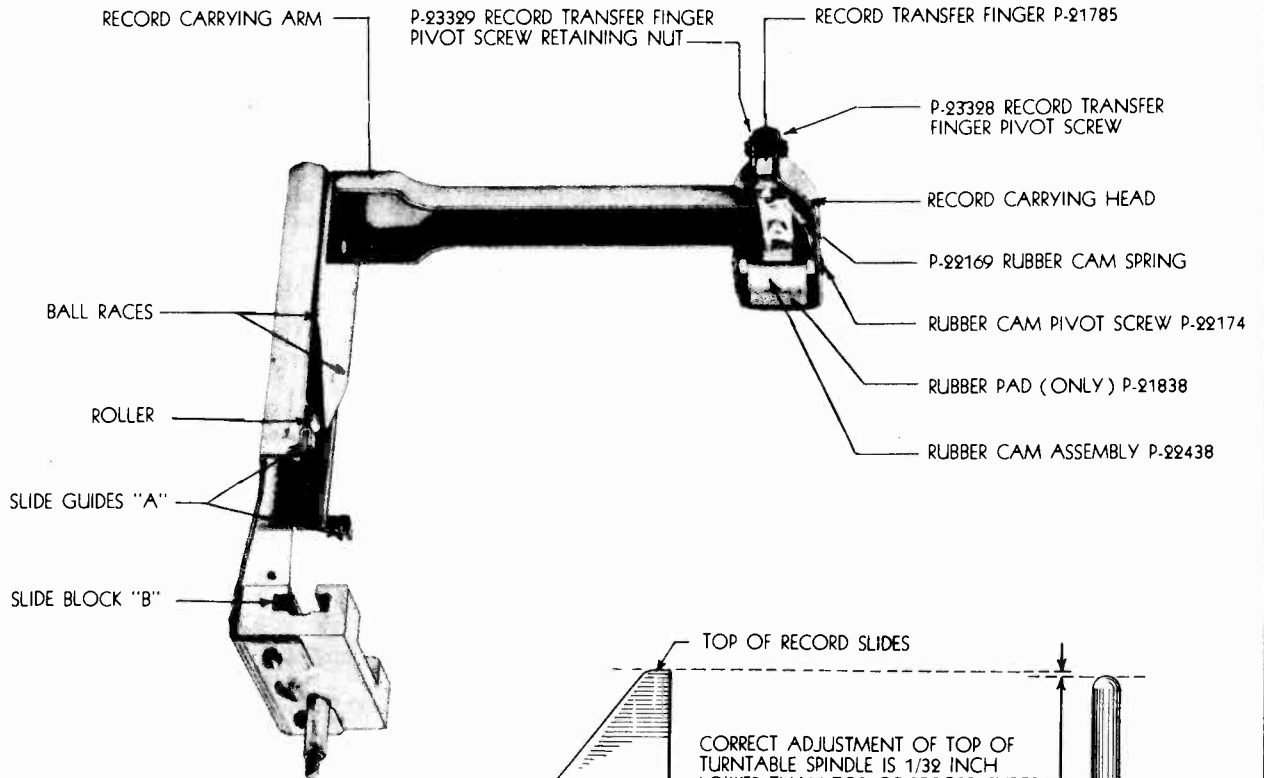

Fig. 23 - Record Carrying Arm Assembly.
- (a) Record Transfer Finger, Fig. 23, does not fall against its stop, due to binding.
- (b) Rubber cam, Fig. 23, is not pulled back because of weak cam return spring.
- (d) Record Transfer Finger, Fig. 23, does not reach surface of top record.
- (a) Record Transfer Finger, Fig. 23, releases record part way over.
- (1) Rubber cam, Fig. 23, interfering.
- 19 - Rubber Cam, Fig. 23, Fails to Push Records Back Against Record Stops.
(b) Record Transfer Finger, Fig. 23, sticks and does not operate freely during return of record carrying arm to position on surface of top record in magazine.
(c) Rubber Cam, Fig. 23, does not come in contact with surface of top record in magazine.
- If this is due to ball bearings sticking in vertical ball grooves, remove and clean ball bearings as described in next Section (20).
- 20 - Record Carrying Arm Head, Fig. 23, Fails to Lower on Records in Magazine After Depositing One on Turntable.
(a) Slide guides "A", Fig. 23, may be too loose.
(b) Slide block "B" Fig. 23 may be binding on Record Carrying Arm Slide Rail "C" Fig. 21.